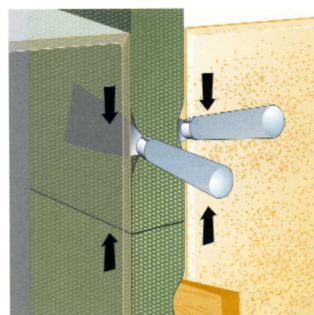

Figure 1
4. Seal the vertical joints starting at the bottom and working up, butting each new piece into the previous. Apply a liberal amount of compatible sealant between the butt joints. Use a putty knife or spatula to ease installation if needed as shown in Figure 1.